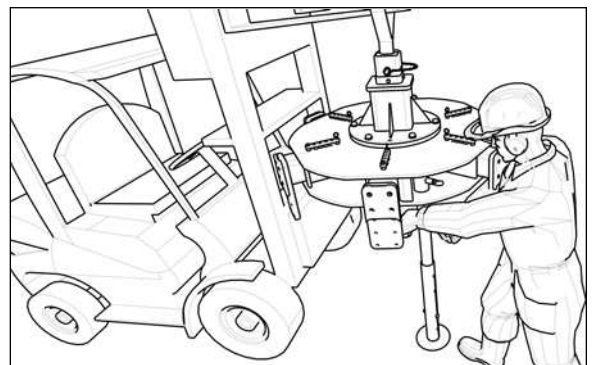

Figure 8. Attaching Supporting Legs To Six Shooter
5. The Six Shooter must remain suspended to attach the Supporting Legs. [A-MM0118] See Figure 8.